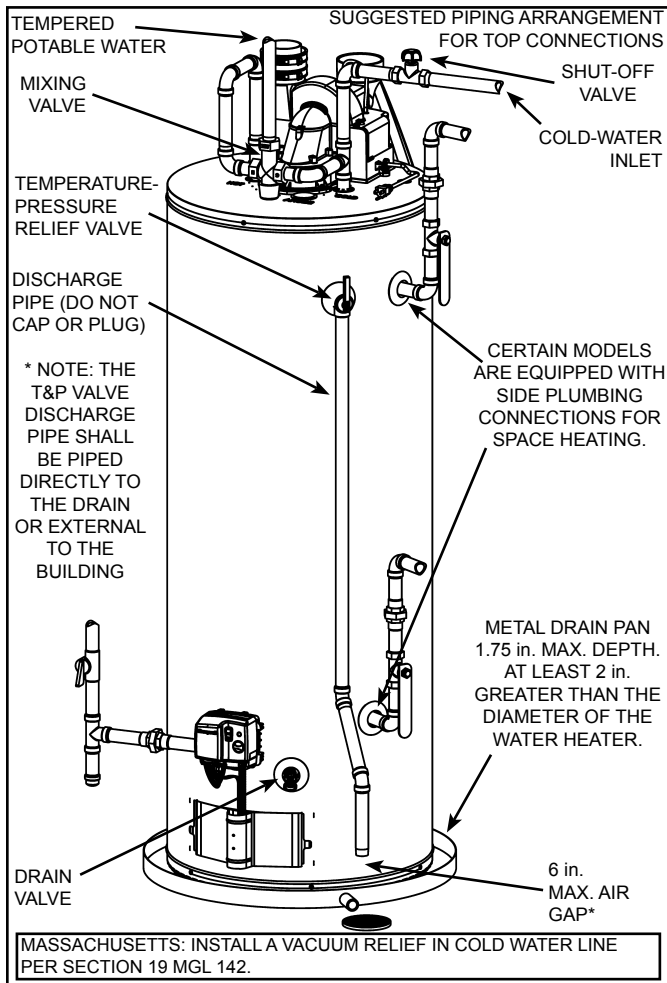
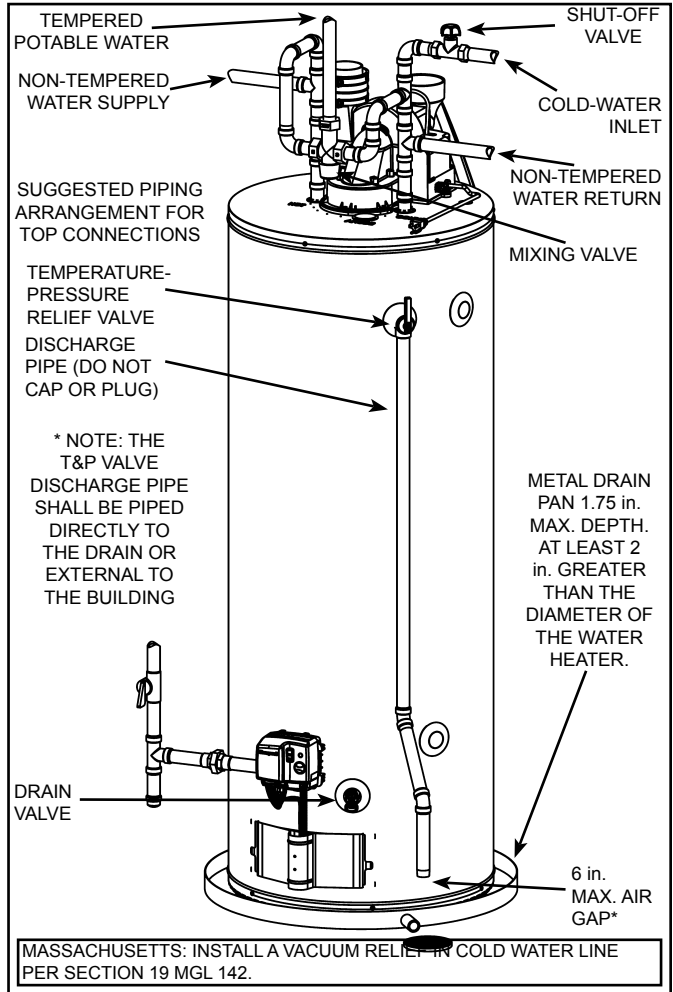

Figure 6
Figure 7
Models equipped with Combo Heating capabilities are shipped with the two side plumbing taps **OPEN** (item 9 and item 12 in Figure 1 and see also Figure 6 & Figure 19). If the heater is to be operated without using the side taps these openings **must be plugged** with the two pipe plugs supplied with the heaters.
In addition to using lowest possible temperature setting that satisfies demand of application, a mixing valve should be installed at water heater (see Figure 6 & Figure 7) or at hot-water taps to further reduce system water temperature. Mixing valves are available at plumbing supply stores. Consult a Qualified Installer or Service Agency. Follow mixing valve manufacturer's instructions for installation of the valves. Before changing the factory setting on the thermostat, read the "Operating The Temperature Control System" section in this manual.